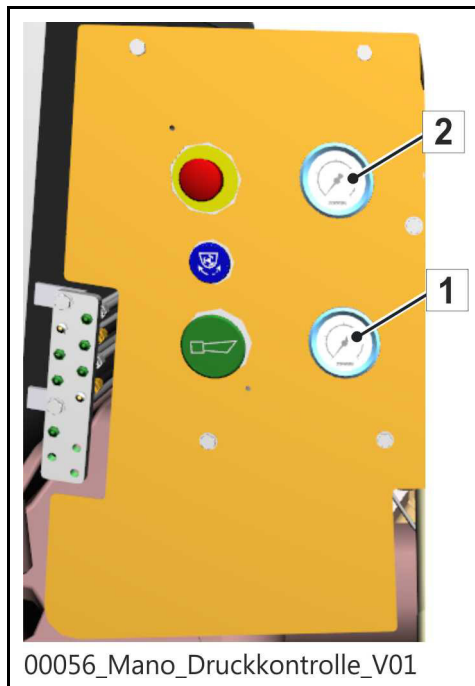

Fig. 158 Pressure gauge pressure check
The indicator on the concrete pump pressure gauge (2) (**Fig. 158**) on the rear of the machine must increase to the value set for the pressure cut-off.